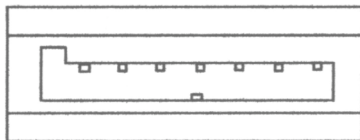

Figure 2A: Original L-shaped SATA connector
- *The original Serial ATA connectors have an L-shaped opening, see Figure 2A.*